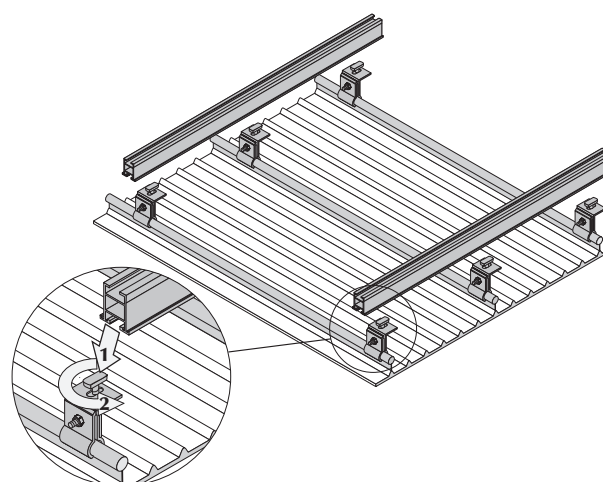

Figure 2 Installation of roof bracket type KK
- Roof bracket KK for clipped standing seam (KalZip) roofs (Fig. 2): Place the roof bracket with its clamping plates over the seam of the metal roofing. The round profile of the clamp has to completely encompass the round seam clip on both sides. Tighten screws.